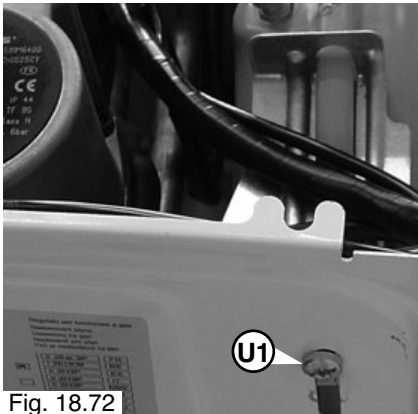

Fig. 18.72
2. Remove the screw "U1" (see Fig. 18.72);